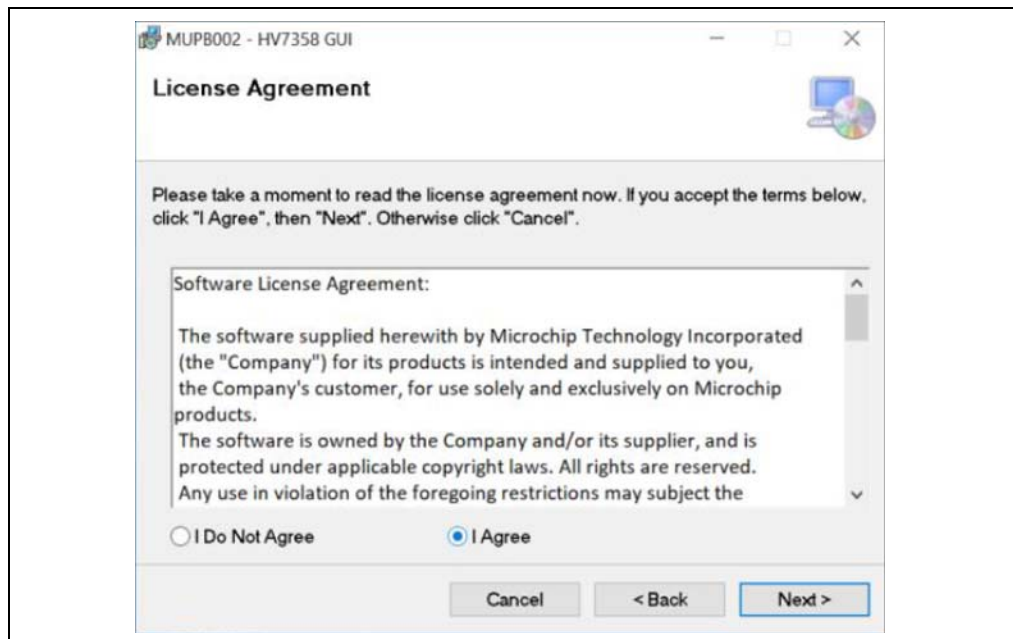

FIGURE 2-11: License Agreement.
3. The License Agreement will appear, as in Figure 2-11. Read and if you agree, select **I agree**, then **Next** to continue. If you do not agree, the installation will stop.